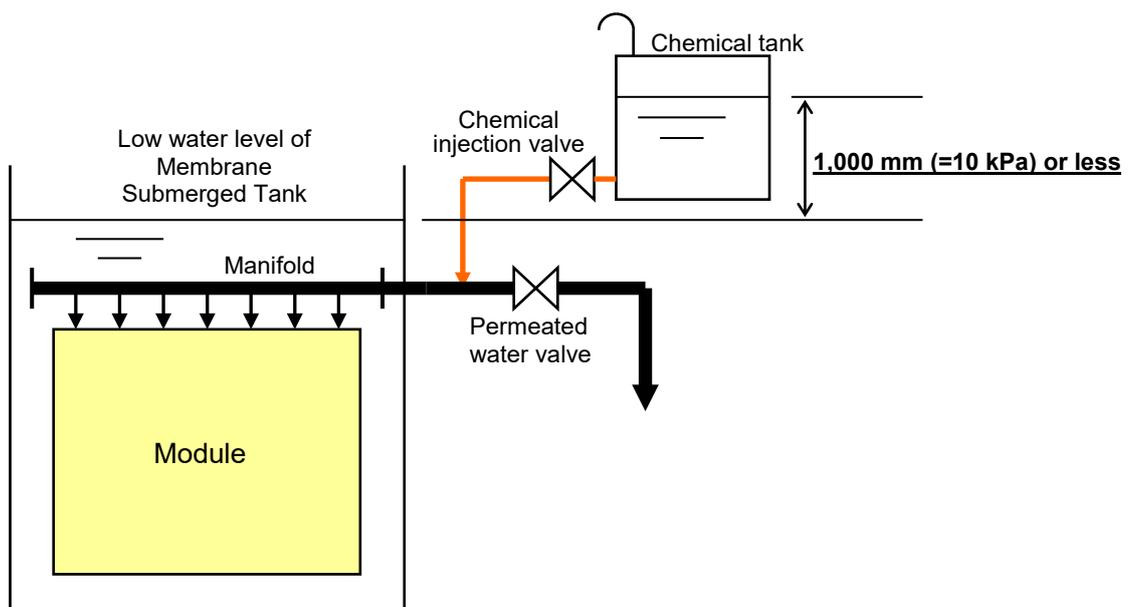

Fig.VIII-2 Chemical Cleaning with Chemical Tank Located above Membrane Submerged Tank
- b. Chemical cleaning with the chemical tank located above the membrane submerged tank (Fig.VIII-2)